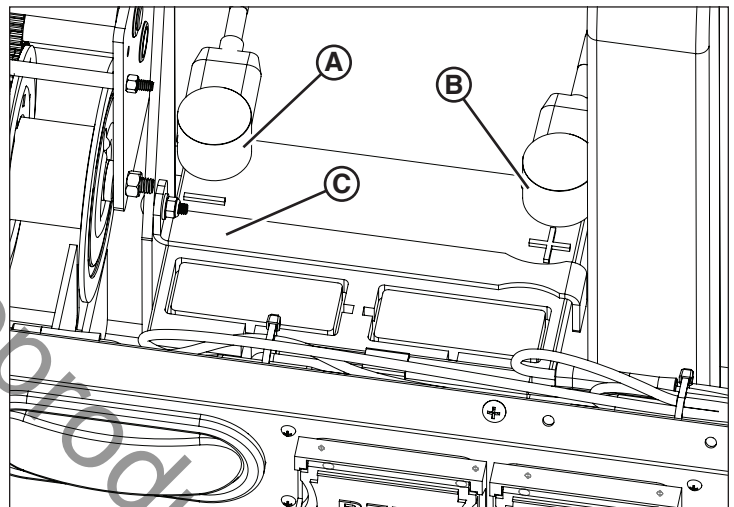

Figure 26
2. Disconnect the black negative (-) cable (**A**, Figure 26) from the negative (-) battery terminal, and secure away from the battery.
3. Disconnect the red positive (+) battery cable (**B**, Figure 26) from the positive (+) battery terminal, and secure away from the battery.
4. Loosen the hardware securing the battery hold-down (**C**, Figure 26), and remove the hold-down.